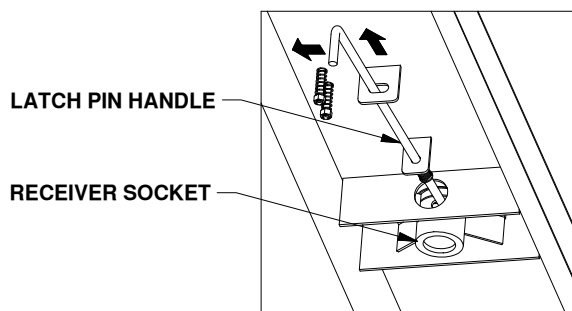

FIGURE C1: View under truck bed.
2. Locate the latch pin handle of the gooseneck hitch located under the truck bed. Retract the latch pin handle all the way to disengage the pin from the ball, see figure C1. Remove the 2-5/16" ball from the hitch receiver socket.